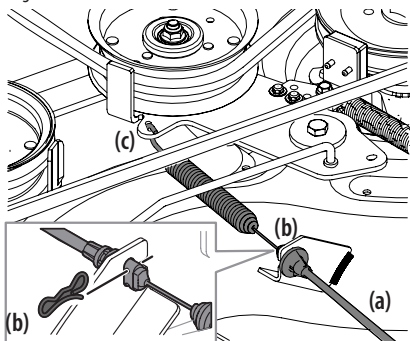

Figure 31
- Carefully remove the PTO cable (a) from the rear of the cutting deck by removing the bow-tie clip (b) which secures it. Remove the spring (c) from the deck idler bracket. See Figure 31.